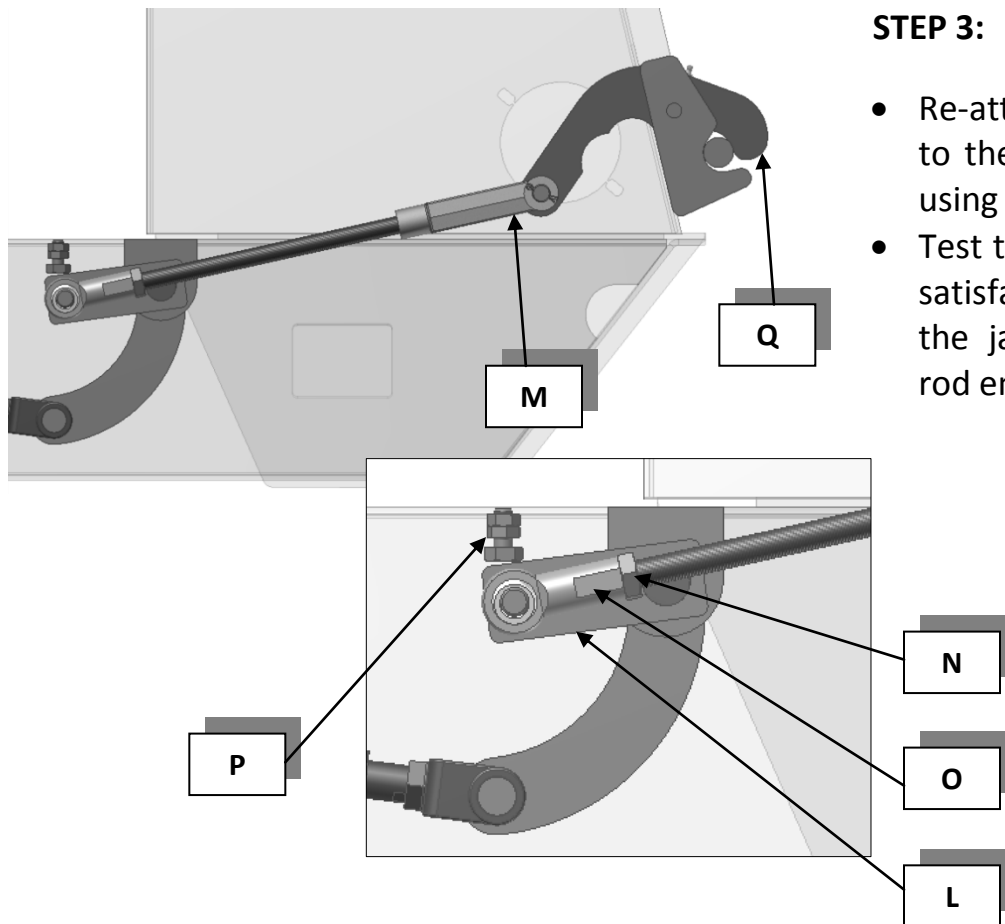

Figure 8 Asphalt tailgate latch closed position
- Test the new setting until satisfactory and tighten the jam nut (**N**) on the rod end (**O**). (Figure 8)
The asphalt tailgate latch (**Q**) is an **over-center** mechanism. When correctly adjusted, it will not take very much force to put the latch (**Q**) in the over-center position or to release it. It is important that the latch (**Q**) does not travel too far past the over-center, or the cylinder may not be able to unlatch the tailgate. The over-center lock (**P**) should be adjusted to prevent this condition (figure 8).